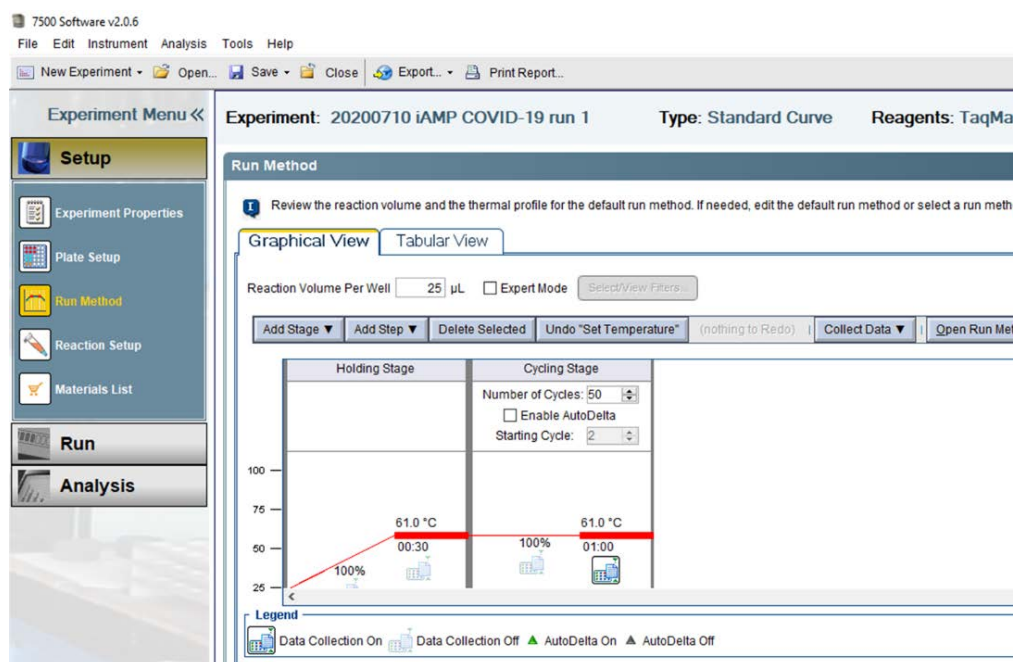

Figure 13. Run method set-up using 7500 Software.
- Setup Run Method according to the following table 4 and Figure 13.